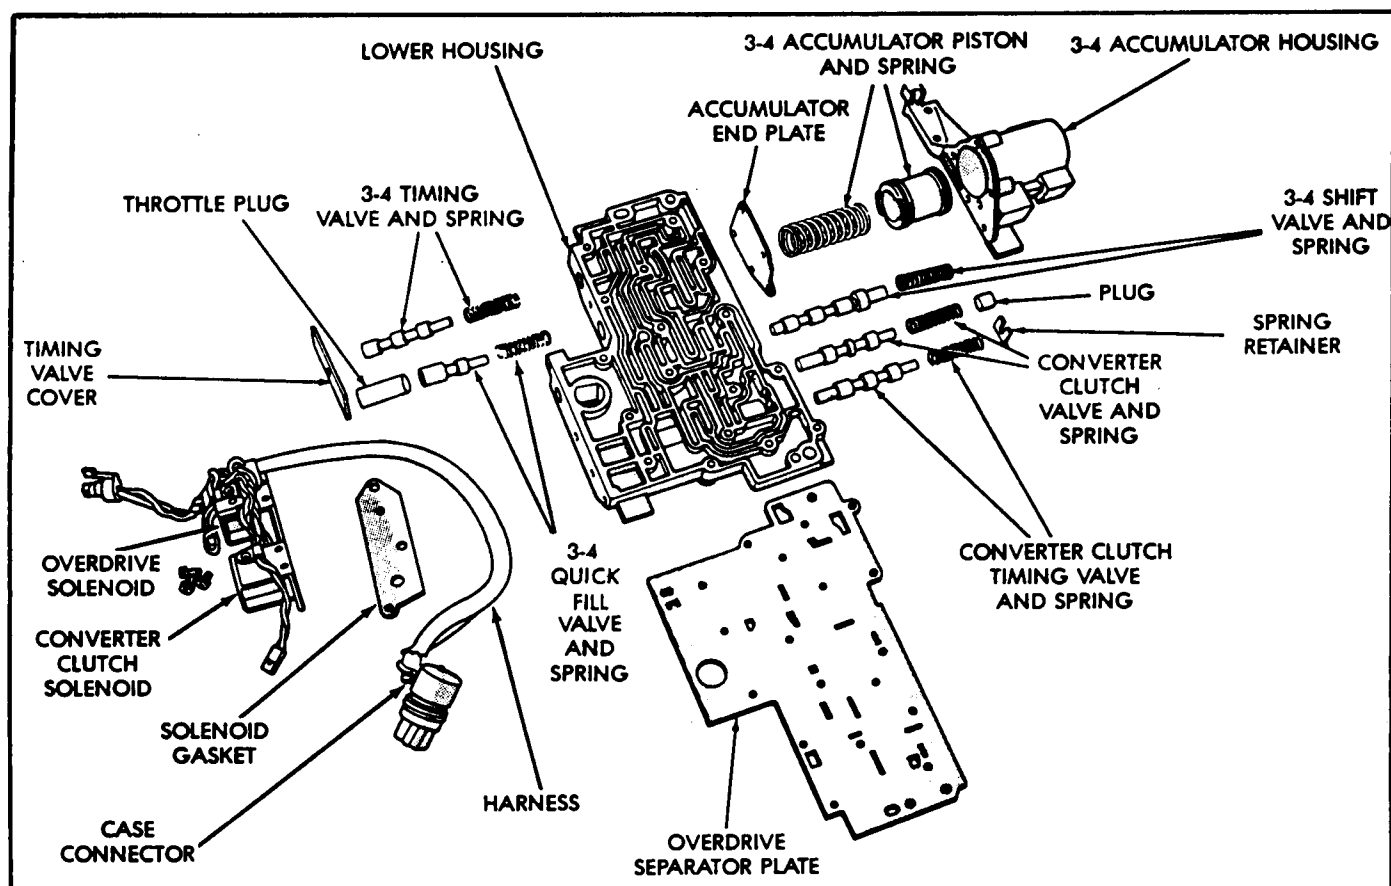

Figure 93
1. Position lower valve body housing as shown in Figure 93.
3. Install 3-4 timing valve spring, and 3-4 timing valve in lower housing, as shown in Figure 93.
4. Install 3-4 quick-fill valve spring, quick-fill valve, and throttle plug, as shown in Figure 93.
5. Install timing valve cover plate and screws as shown in Figure 93. Torque screws to 35 in.lbs.
6. Install converter clutch timing valve, spring and retainer (See Figure 93).
22. Install the 3-4 shift valve and spring as shown in Figures 93 and 103.
23. Install the converter clutch valve, the converter clutch valve spring and plug, as shown in Figures 93 and 103.